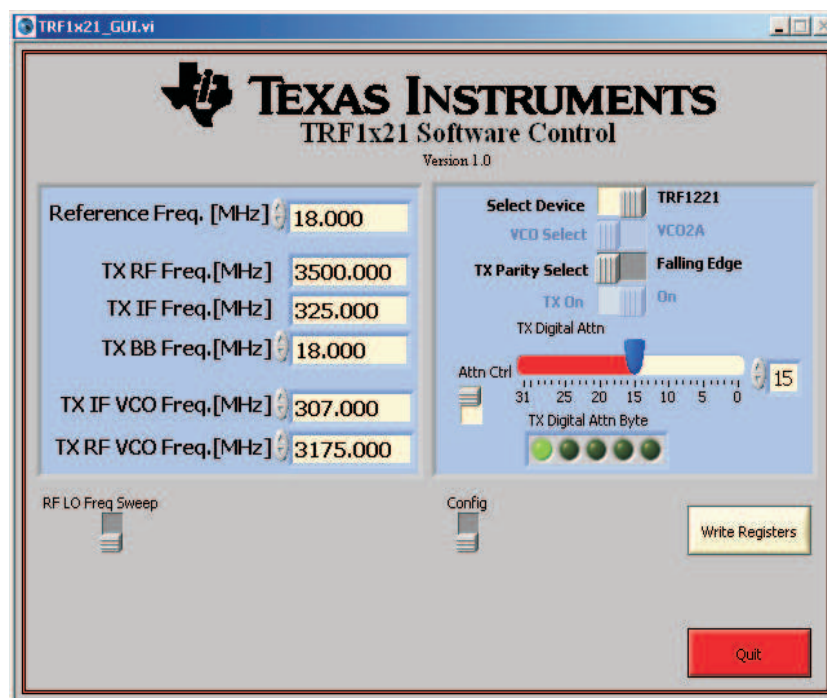

Figure 4. TRFx21 GUI Front Panel
- The TRF1x21 GUI is launched as seen in Figure 4.